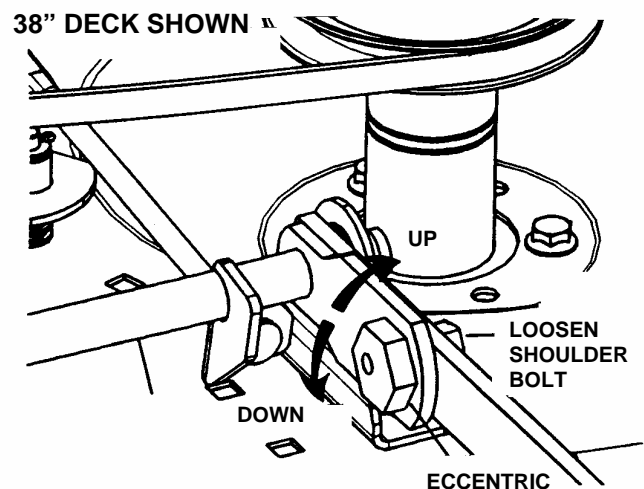

FIGURE 4.10
7. Turn eccentric "UP" or "DOWN" as required until blade tips are within 1/8" of the same distance from the floor. See Figure 4.10.